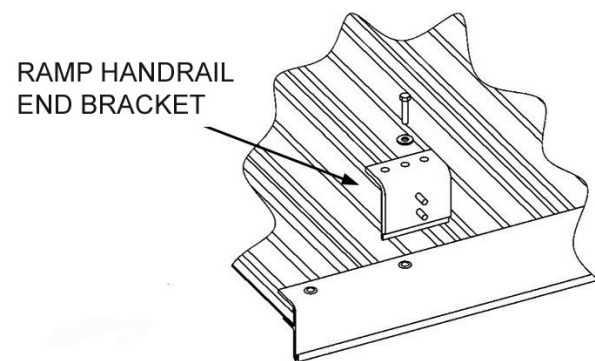

FIG. 15a
- a) For 4', 6', and 8' ramps, use one at each outside corner of the ramp section using one 5/16" x 1 1/2" bolt & washer into the threaded insert second from the end of the ramp (FIG. 15a).